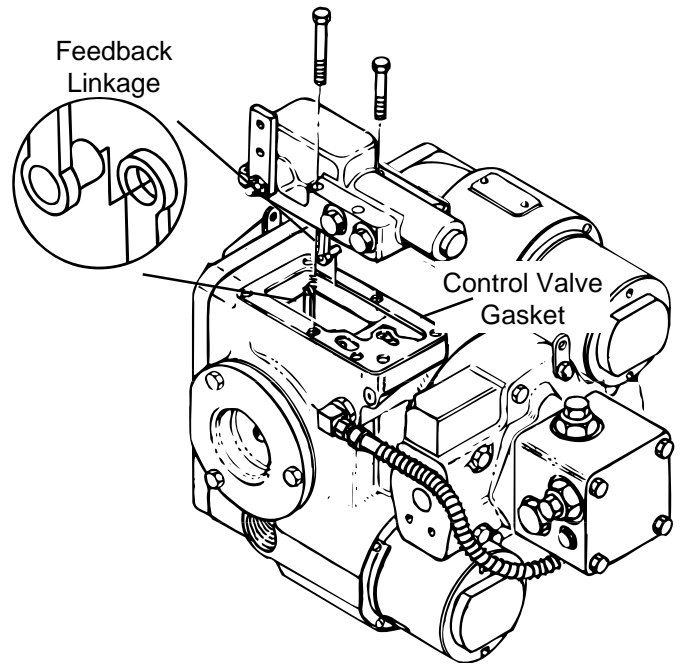

Figure 9
- 8 Lift the control valve away from the motor and disengage the feedback linkage, see figure 9.